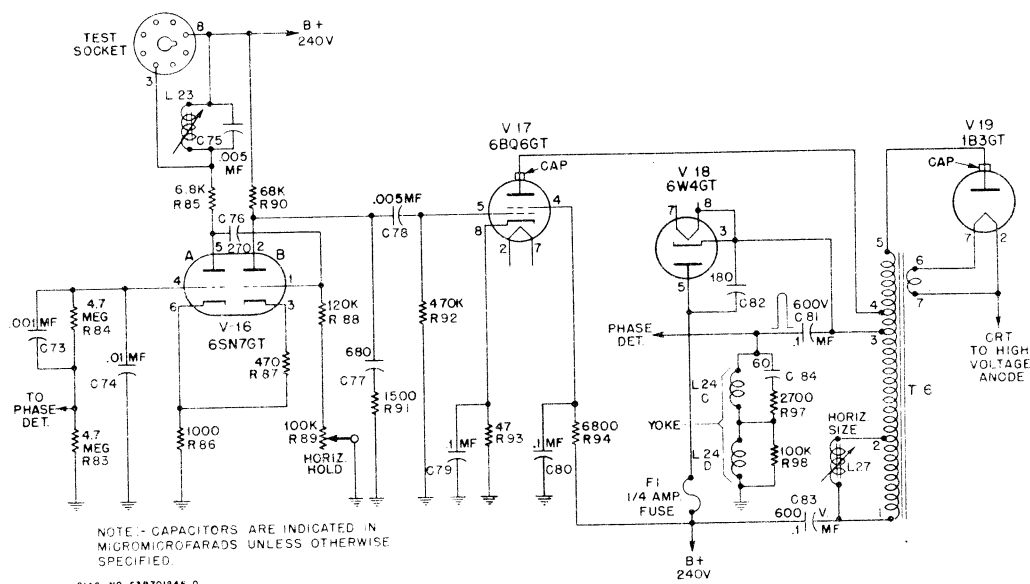
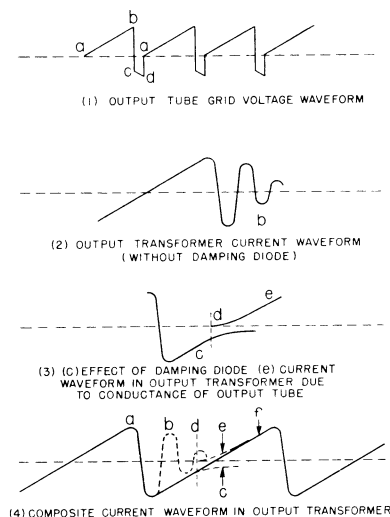

FIGURE 20. SIMPLIFIED SCHEMATIC OF HORIZONTAL SCANNING AND HIGH VOLTAGE SYSTEM
FIGURE 22. WAVEFORMS IN HORIZONTAL SCANNING SYSTEM
The voltage developed at the plate of V-13B will be the combination sawtooth and pulse voltage shown in Figure 22(1). The pulse is formed by the peaking resistors R-65 and R-66. When V-13B goes into conduction, the voltage at the plate of V-13B drops suddenly to a value determined by the relationship of the plate resistance of V-13B to the total resistance in the discharge circuit of C-66, which consists of R-65, R-66, and the plate resistance of V-13B. After this initial instant, the charge on C-66 decreases, causing the voltage decrease at the plate shown between points "c" and "d" of Figure 22(1). When the positive pulse on the grid of V-13B has decreased to the value where the negative charge on C-63 becomes operative and cuts off V-13B, the voltage on the plate of V-13B and, correspondingly, on the grid of V-14, rises quickly to point "a" on the curve, the start of the trace.
The negative pulse shown between point "b" and "a" of Figure 22(1), acting on the grid of the vertical output tube V-14, tends to cut the tube off and raises its plate resistance to the larger value required to dissipate the energy in the plate circuit inductance during the short retrace period.
The horizontal scanning system comprises a phase detector V-15 (6AL5), a cathode coupled multivibrator V-16 (6SN7), the output tube V-17 (6BQ6) and a damping diode V-18 (6W4). Figure 20 is a simplified schematic of this system.
C-77 and R-91, the peaking resistor, will produce the same combination pulse and sawtooth voltage shown in Figure 22(1). This action was explained in the vertical circuit.
The foregoing explanation is based on the assumption that tube "A's" grid is returned to a fixed potential point. It can be seen that if this grid is returned to a point which varies in potential with frequency of the multivibrator, it would be possible to make this variation a means of frequency control. Assume that the grid of "A" in Figure 20 is made more positive. This causes the bias of "B" to increase because of the increased drop across the common cathode resistor R-86. Capacitor C-76 will then discharge for a longer time before "B" conducts, thereby decreasing the frequency of oscillation. If the grid were made more negative, the bias across the common cathode resistor would be less and C-76 would discharge for less time before "B" started to conduct, thereby increasing the frequency.
The combination sawtooth and pulse waveform developed across C-77 (680) and R-91 (1500) by the multivibrator circuit, is fed to the grid of the horizontal output tube V-17 (6BQ6). Figure 20 is a simplified schematic of the horizontal output system. It will be noted that in this system an auto-transformer is used. In the horizontal scan it is necessary that retrace be completed in about 7 microseconds. In order to accomplish reversal of current in the inductance of the output transformer and the yoke in this short a time, it is necessary to make this circuit resonant at such a frequency that the half cycle time will equal 7 microseconds, because only by shock exciting such a circuit into oscillation will retrace be accomplished in the time allowed. The circuit is made resonant by the inductance of the output transformer and yoke, the distributed capacity and the tube capacity. Bearing this in mind, the operation can be explained as follows. Referring to Figure 22(1), assume that the voltage on the grid of the output tube is increasing, point "a". The grid is now being made less negative and the output tube starts to draw current which is supplied from B plus thru the damping diode. When point "b" is reached on the grid voltage waveform, the output tube is suddenly cut off because its grid has been made highly negative (point "c" on the grid voltage waveform). With the tube cut off, the resonant plate load is undamped and the circuit is shocked into oscillation. The reversal of current through the output inductance produces a positive voltage pulse which makes the cathode of the damping diode (V-18) positive, with respect to its plate; therefore, it cannot conduct. C-82 (180) is placed across the diode to provide a low impedance for the oscillatory current. If the damping diode V-18 were not present, this oscillation would continue and current would flow in the output transformer as shown in Figure 22(2). In order to insure a linear trace, however, this oscillation must be stopped and the damping diode serves this purpose. When the current nears its maximum negative value, the polarity and amplitude of the voltage pulse on the damping diode is such that its plate becomes positive, with respect to its cathode, so that the tube conducts heavily and loads the circuit sufficiently to prevent continuation of the oscillation. The current then follows the decay curve shown at "c" in Figure 22(3). At the time ["d" in Figure 22(3)] the voltage at the grid of the output tube has become less than cut off [point "a" in Figure 22(1)] and the tube again demands current. The rising current in the tube results in superimposing the waveform "e" of Figure 22(3) on the current flow already in the
output transformer due to the decaying current which resulted from the damped oscillation. Combination of these two currents results in the linear trace current indicated at "f" in Figure 22(4), which is a composite waveform of the entire action. During the peak conduction of the damping diode, C-83 (.1) charges and its polarity is such that when the output tube calls for current, the charge on the condenser will be in series with the B plus supply so that the voltage at the output tube plate is raised from the 250 volt B plus supply to about 475 volts by this so-called "bootstrap" voltage. When the grid voltage waveform of the output tube again reaches point "b" of Figure 22(1), the tube is cut off and another cycle starts.